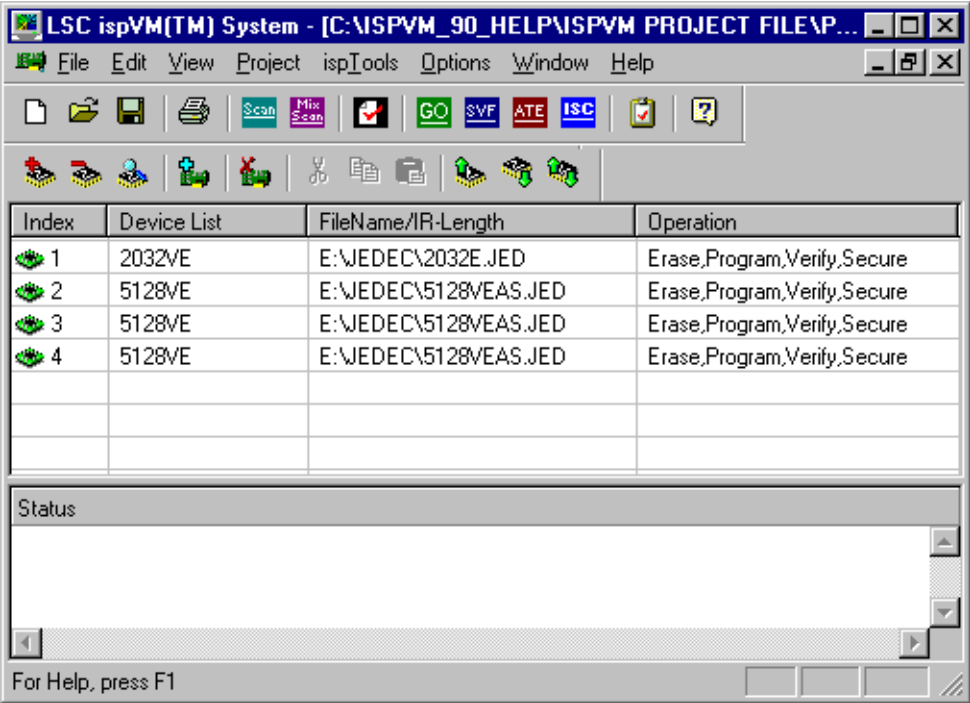

Figure 2-2. Single Chain Configuration Window and Status Window
1. Choose **File** ⇒ **New**. The ispVM System software opens an empty chain configuration window (Figure 2-2).